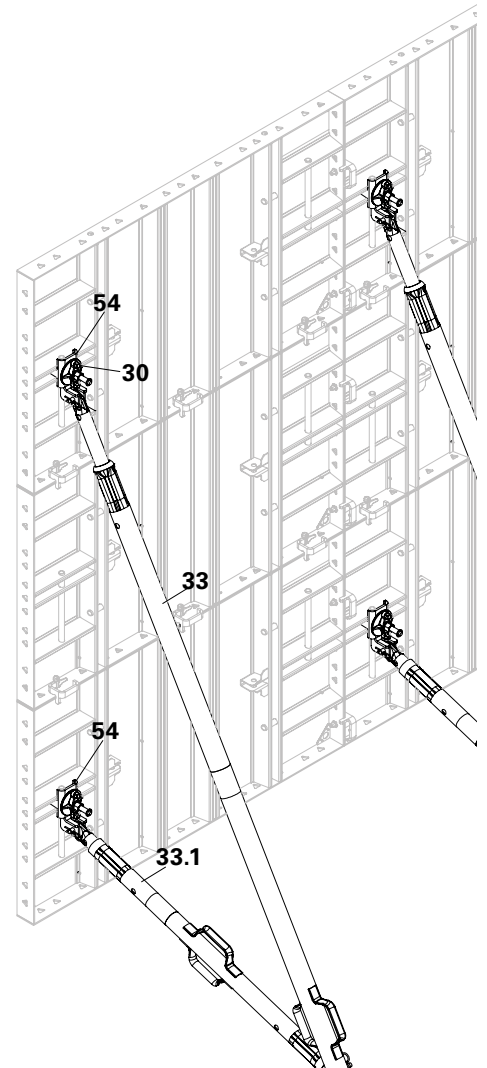

Fig. A6.07
4. Perform the similar procedure to fix the external brace connector (54) for kicker (33.1). (Fig. A6.07)